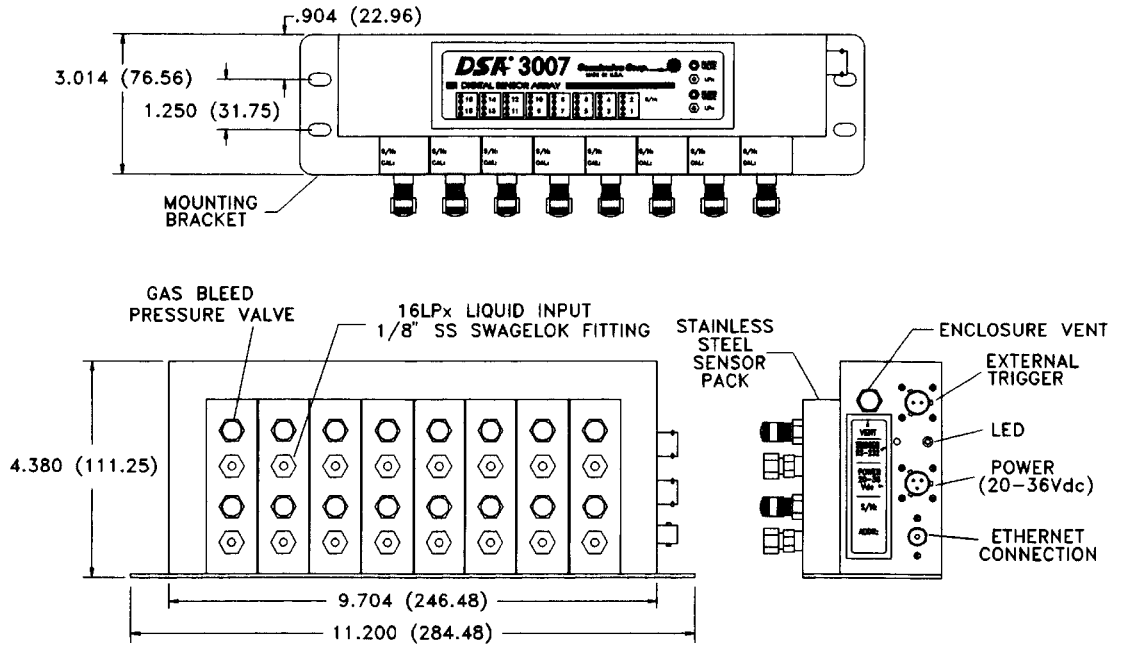

Figure 3 - DSA 3007/3207 Mounting and configuration
- 1) Mount the Digital Sensor Array to the test fixture using the mounting holes provided or the Mounting Bracket provided with the unit. The mounting bracket may be mounted on the side of the module. Mounting dimensions and other information may be found in Figure 3.
Figure 3 shows the DSA 3007 with the Universal Mounting Bracket. Dimensions are in inches and (millimeters).